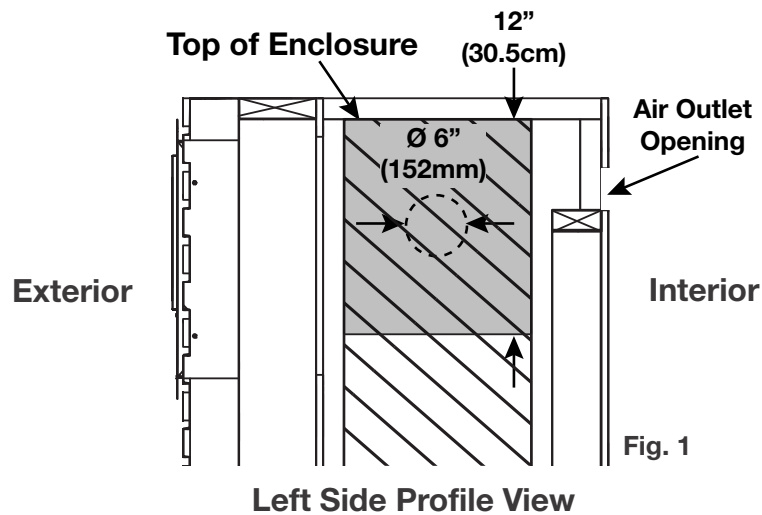

Fig. 1
1. Determine the desired location for the hot air exhaust assembly on the exterior wall and frame a 14 1/2" (36.8cm) wide by 11 3/8" (28.9cm) high opening (**Fig. 1**).
1. Determine the location for the 6" (152mm) collar plate assembly on the appliance enclosure, and then cut a 6" (152mm) diameter hole (Fig. 1).
Ensure to create the  $\text{\O} 6''$  (152mm) hole within the top 12" (30.5cm) of the enclosure (Fig. 1).
2. Determine the desired location of the wiring knockout (**Fig. 1**), and then remove the left or right knockout accordingly. Install bushing (supplied) into knockout.